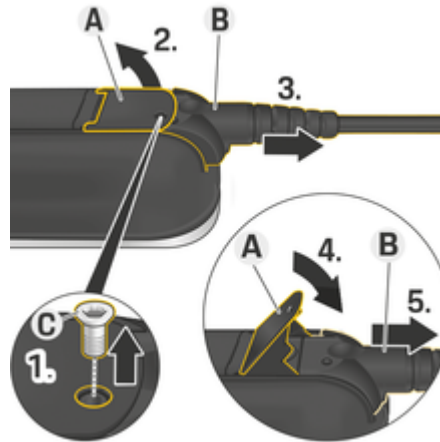

Fig. 15 Disconnecting cables
1. Remove screw **C** (Fig. 15) using a suitable tool.
2. Lift the lever **A** (Fig. 15).
3. Pull out the plug **B** (Fig. 15) until resistance is first felt.
4. Close the lever **A** (Fig. 15).
5. Pull out the plug **B** (Fig. 15) fully.